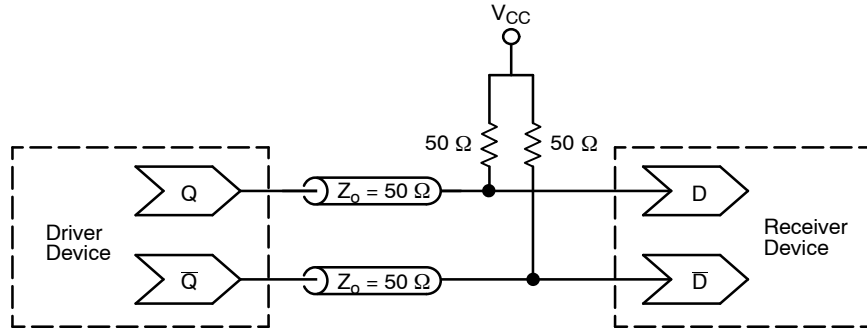

Figure 14. Typical Termination for Output Driver and Device Evaluation
1. CML outputs require $50\ \Omega$ receiver termination resistors to V_{CC} for proper operation. See Figure 14.